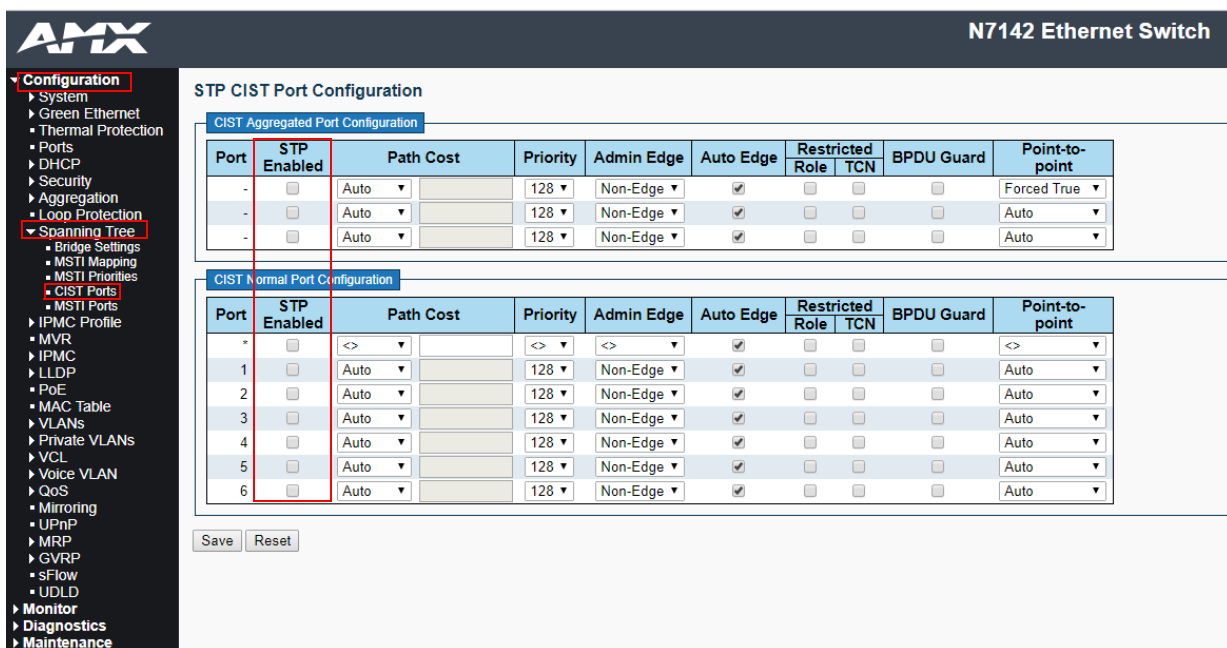

FIG. 7 CIST Port Configuration Page
2. Select **Configuration > Spanning Tree > CIST Ports** (as shown in Figure 7).